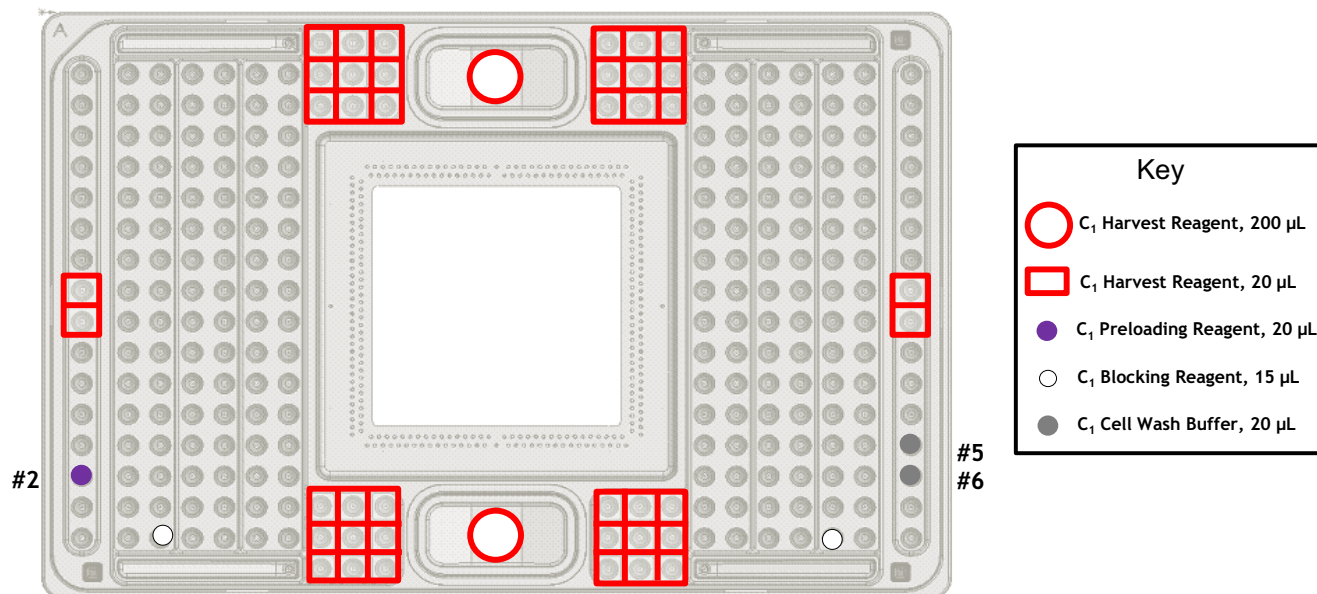

Figure 6 C₁ Chip priming pipetting map
- 1 Add 200 µL of C₁ Harvest Reagent from 4 mL bottle into accumulators marked with red circles in Figure 6 using a pipette tip.